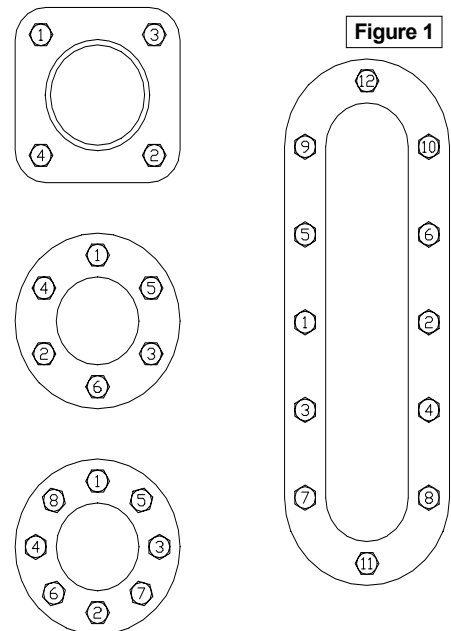

Figure 1
2. Flange type glass retainers are held in place with from 3 to 24 nuts or cap screws, depending on the model. They should be removed by turning them in a counter clockwise direction. Loosen fasteners evenly in reverse of the pattern shown in *Figure 1*.
5. Using a torque wrench, tighten the fasteners in a regular pattern to avoid uneven loads on the glass. See Figure 1. Torque individual fasteners in stages, moving to the next fastener after each increment of torque. A maximum difference of 5 foot-pounds (7 N' m) between fasteners should be maintained on larger units, and less on smaller ones. Continue torquing until the values shown in Tables 1-3 are attained.